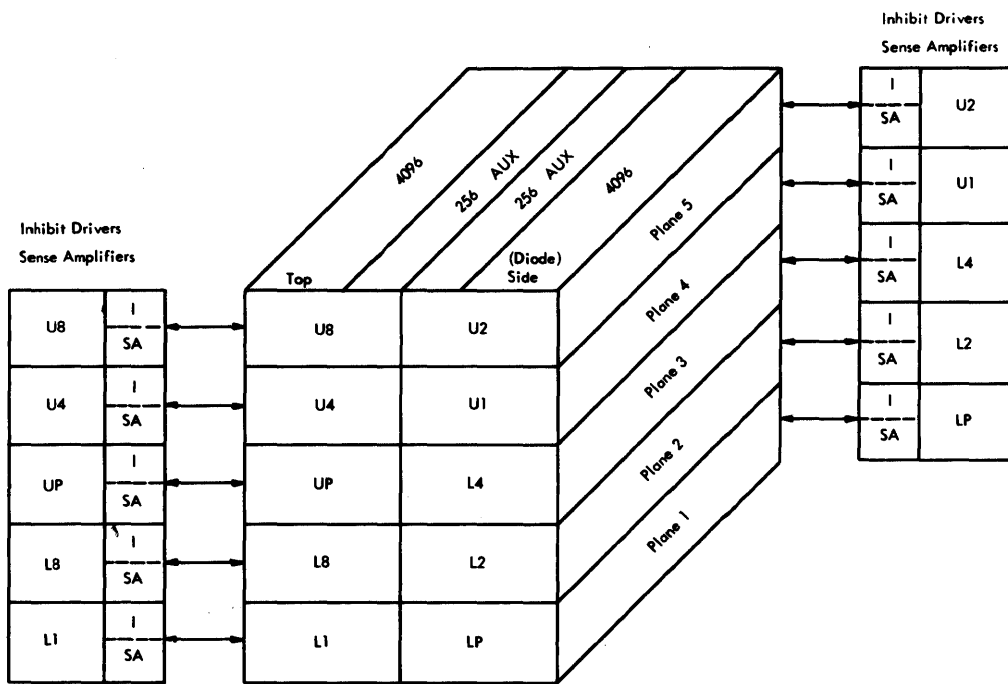

Figure 2-10 Bit Plane Arrangement 4K
- Five physical planes per 4K array (Figure 2-10).
one parity (P) bit. Note in Figure 2-10 that there is an U (Upper) bit part consisting of U1, U2, U4, U8, and UP and an L (Lower) bit part with L1, L2, L4, L8, and LP. Each part must maintain ODD parity (an odd bit count). This is accomplished with the UP bit for the Upper data bits and with the LP bit for the Lower data.